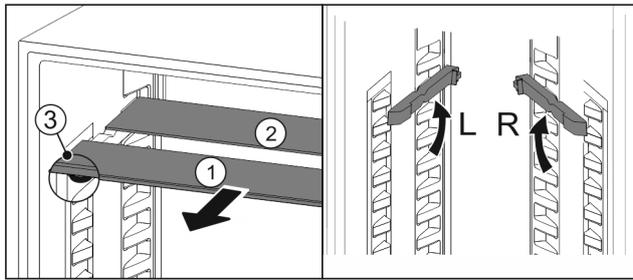

Fig. 24
- ▶ Pull the glass panels out Fig. 24 (1) from the front, one at a time.
- ▷ The glass panel Fig. 24 (1) with the trim strip is at the front.
- ▷ The stops Fig. 24 (3) point downward.